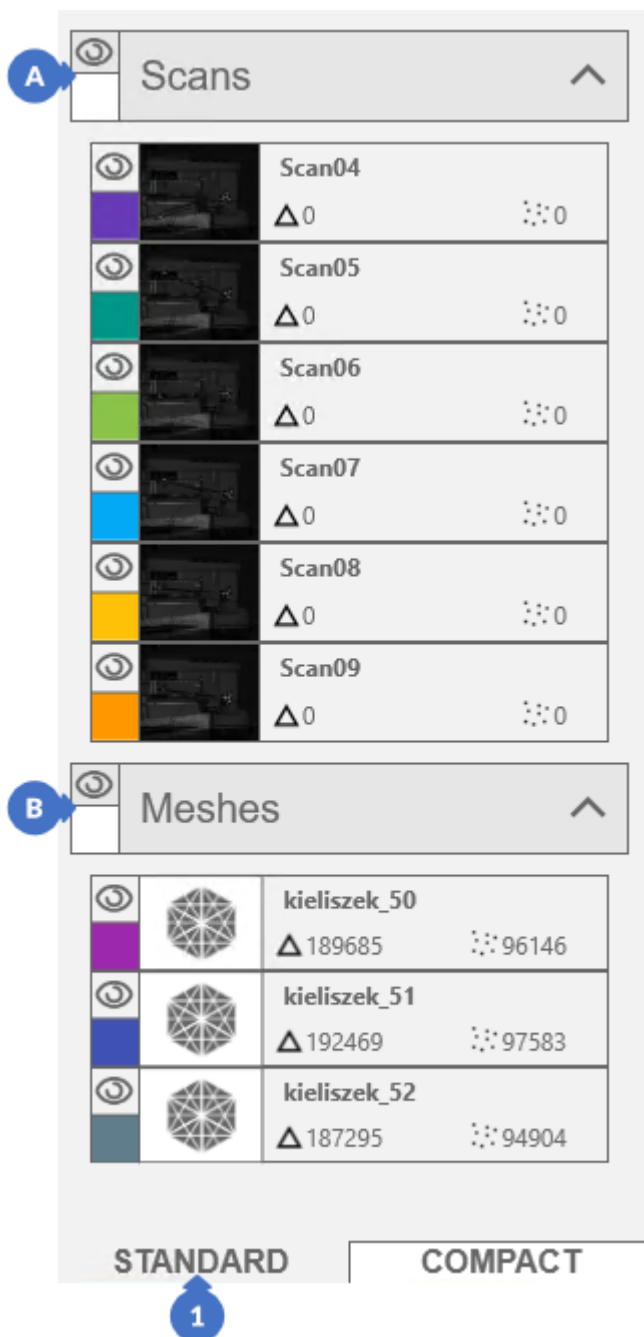
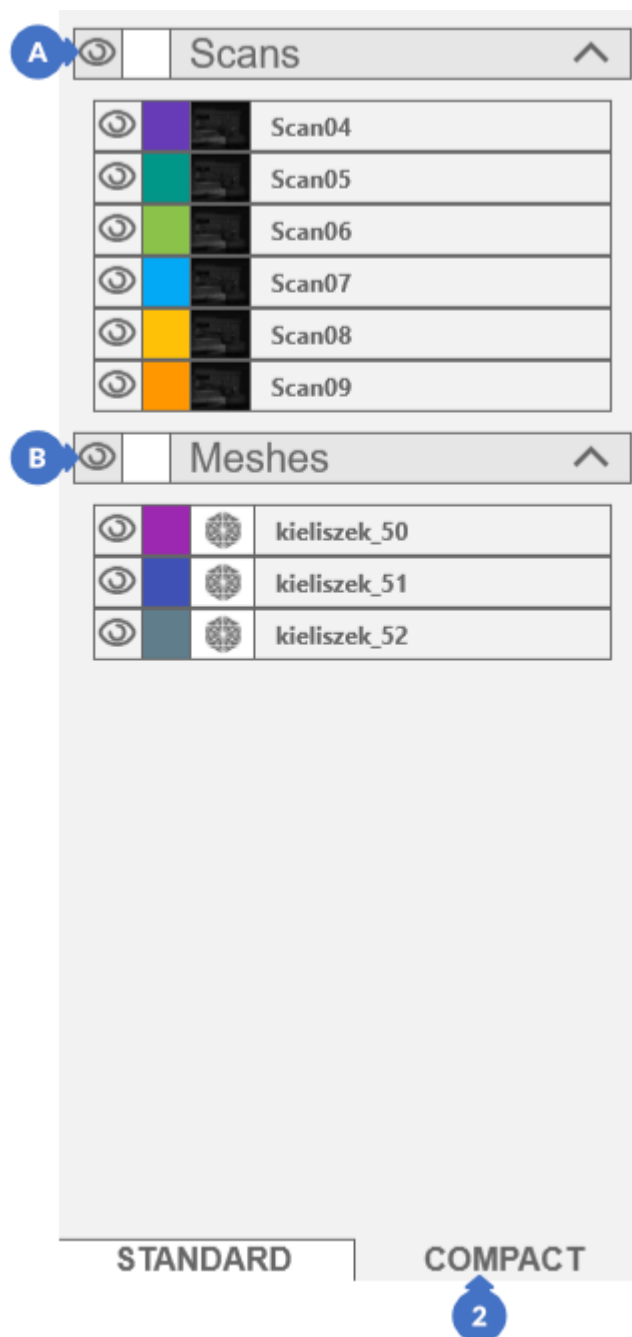

Figure 36. The Model Tree – standard view
Figure 37. The Model Tree – compact view
On the left side there is a panel with a tree containing all scans or groups of scans acquired during scanning (A) or imported from outside (B). Scans in the category (A) can be regenerated, but only in the situation in which all the data needed for such a regeneration has been saved on the disk. Scans from the second category (B) cannot be regenerated because they do not have the appropriate data (including photos) needed to reprocess them. The tree has two ways of displaying information: a standard mode – *STANDARD* (1) (Figure 36) where all the data is visible, and a compact mode – *COMPACT* (2) (Figure 37) where some additional information is not displayed to save the space on the screen.